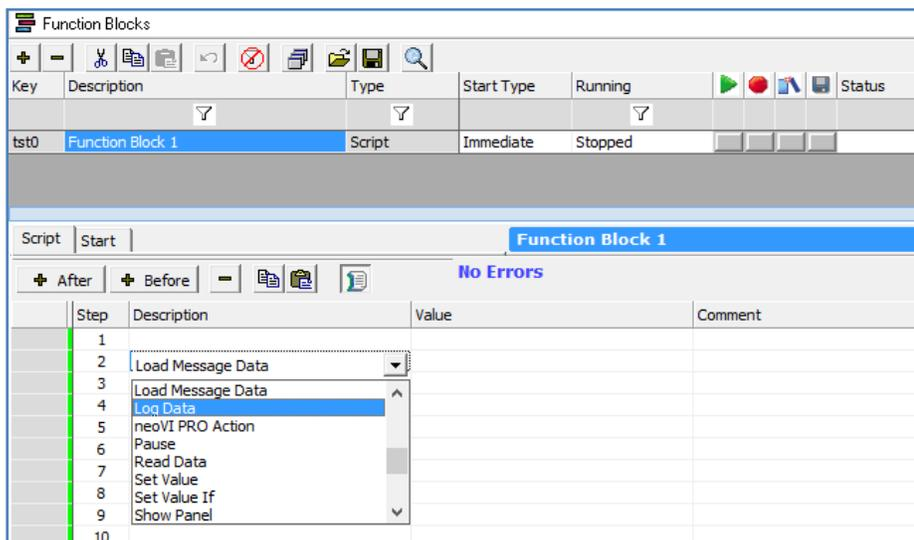

Figure 1: Commands List in Function Block
- Double click in 'Description' column of Function Block to open list of available commands. Select 'Log Data' command from list (figure 1).